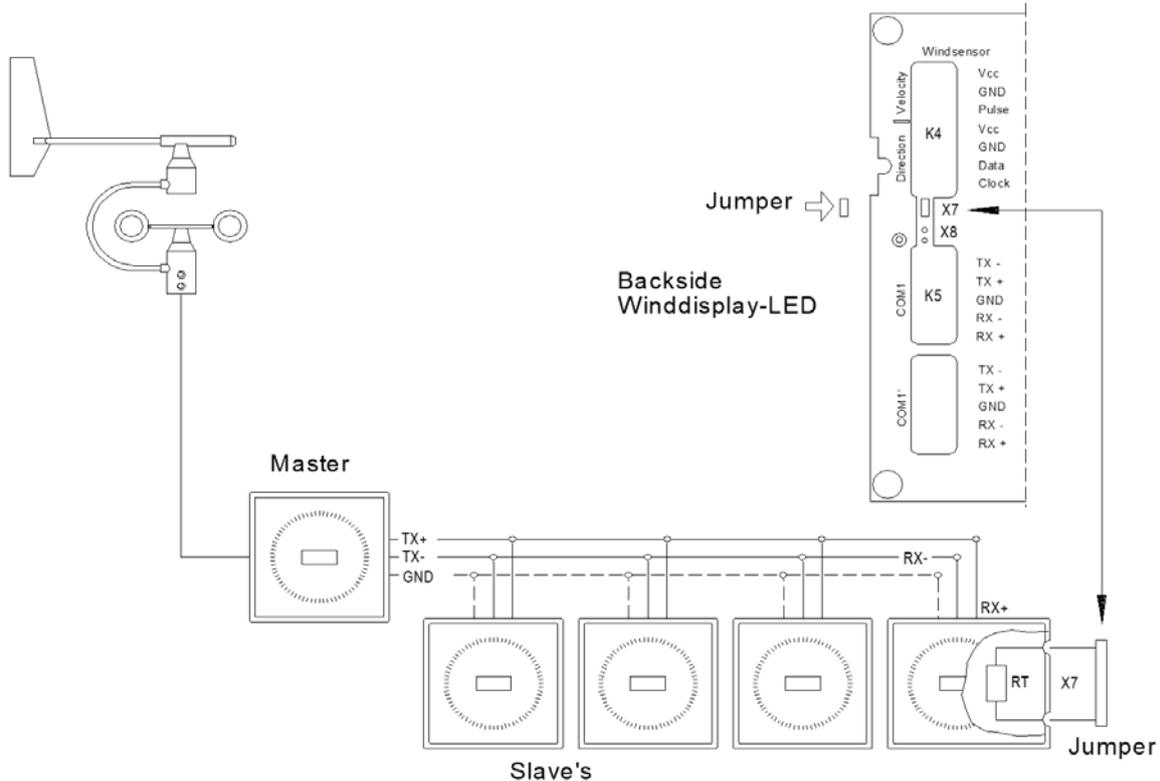

Figure 4: Example for connection
For termination using long cables the rear of the wind display is equipped with contact pins X7, which can be bridged from outside using a jumper if required (ref. Figure 4).
- When a jumper (X7) is inserted at the receiver (Slave) the integrated termination resistor (RT=200 Ω) is activated (ref. figure 4.).